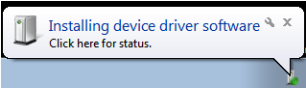
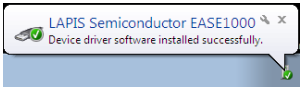

Figure 2 The USB driver installation message 1
Figure 3 The USB driver installation message 2
- If you have first connected EASE1000 to PC, the messages of the following Figure 2 and Figure 3 are displayed in sequence.